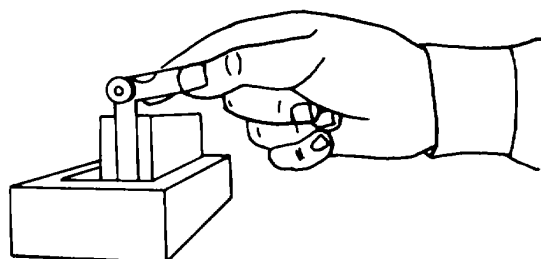

Figure 3-71. Using a Thickness Gauge
a. Use. The thickness gauge is used to measure the clearance between two surfaces, such as checking piston ring gap clearance in a cylinder bore. Another typical use is shown in figure 3-71.